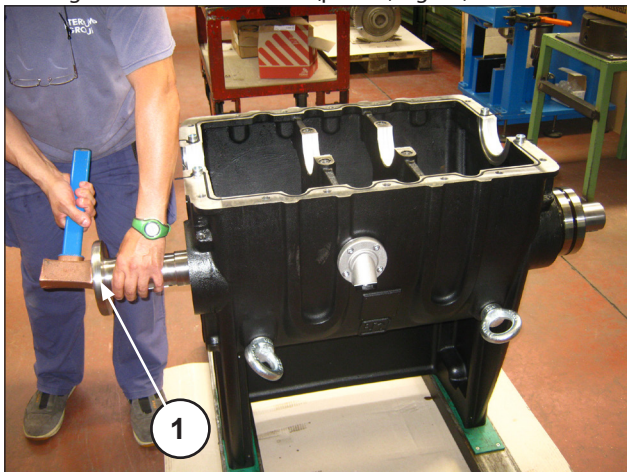

Fig. 47
Extract the PTO shaft from either one of the two sides using an extractor hammer with associated pad making the needle bearing come out from its seat (pos. ①, Fig. 47).